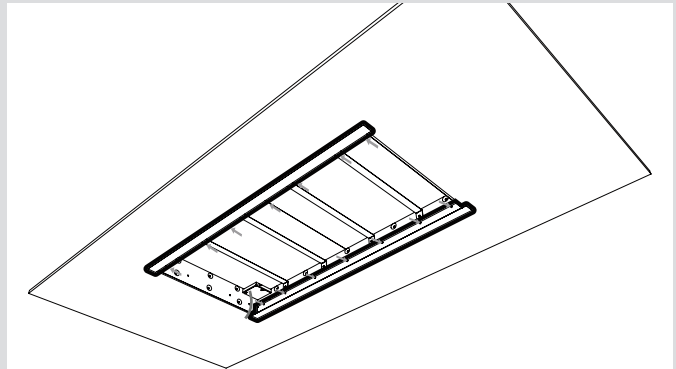

Figure 6
5. Screw the side rails into the housing using No. 8 screws (not included). Ensure that the lip fits snugly against the outside of the hole (Fig. 6).